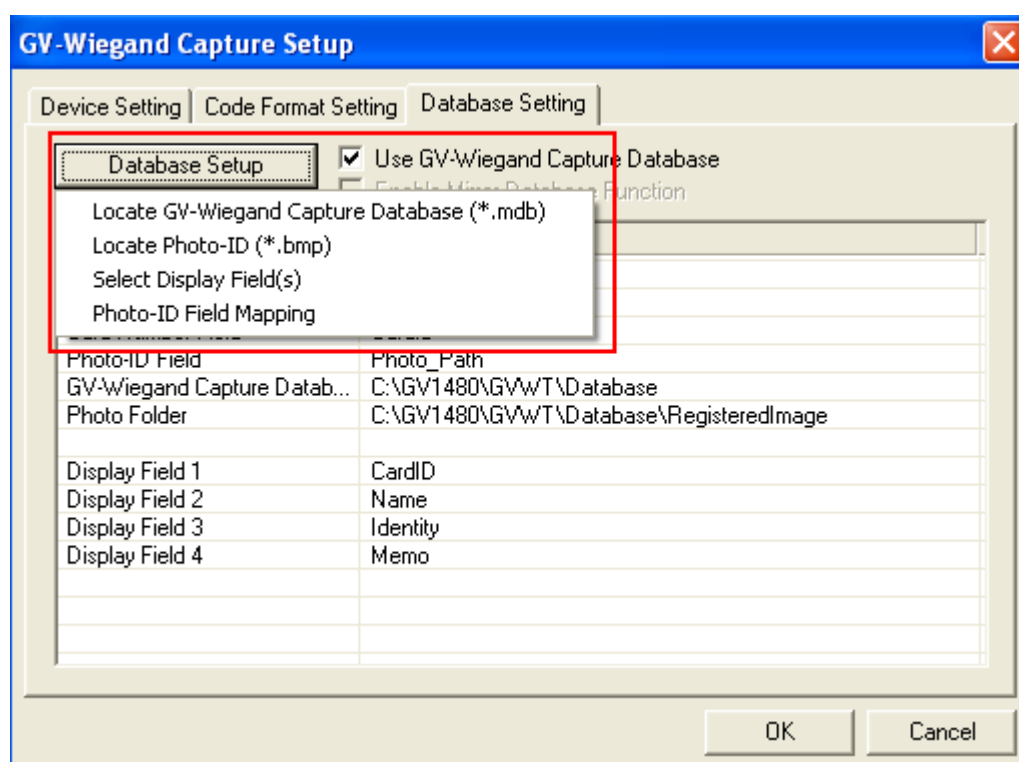

Figure 4-4
8. In the Database Setting tab, click the **Database Setup** button (see *Figure 4-4*) to have these options.